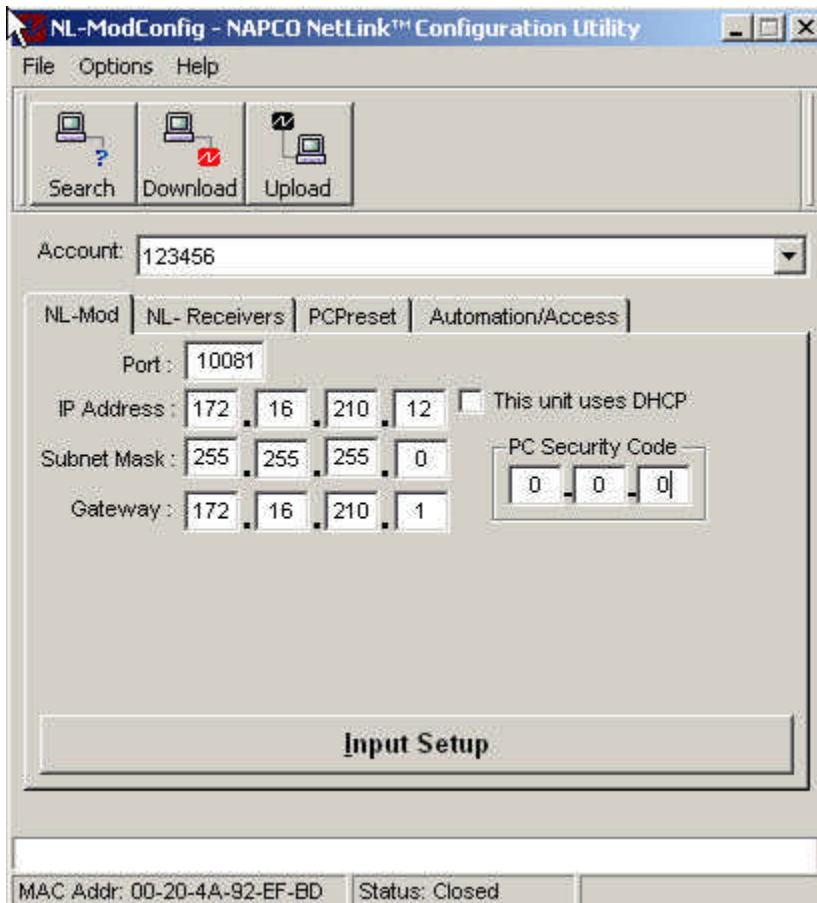

Figure A9.
20) After the new account is saved, verify the NL-Mod tab information is correct. Refer to figure A9.